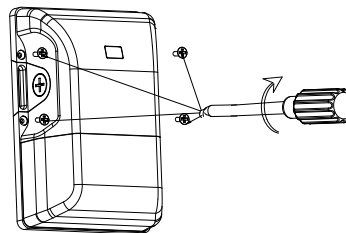

Fig. 7B
7. Close the luminaire by screwing the four screws (Fig. 7B).
7. Fermer le luminaire en vissant les quatre vis (Fig. 7B).